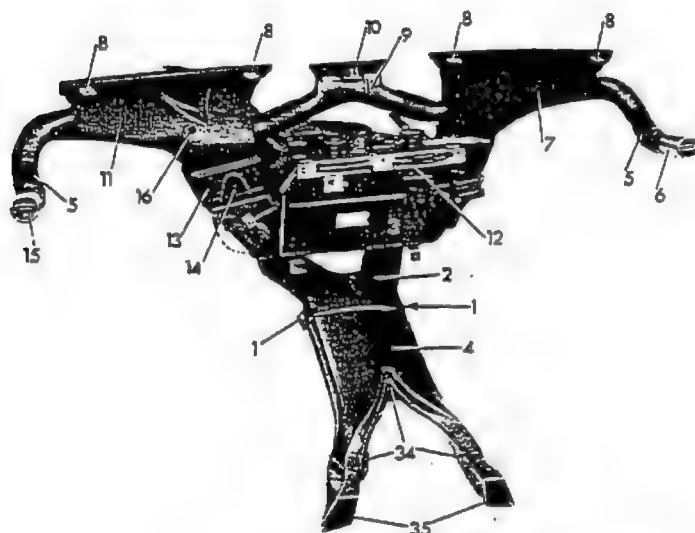

Fig. 83-3/1
3. Detach the foam rubber from the heating ducts and turn out the screws (1) on the connecting duct (Fig. 83-3/1).
4. Pull the connecting duct (2) out of the guide on the heater box (3).